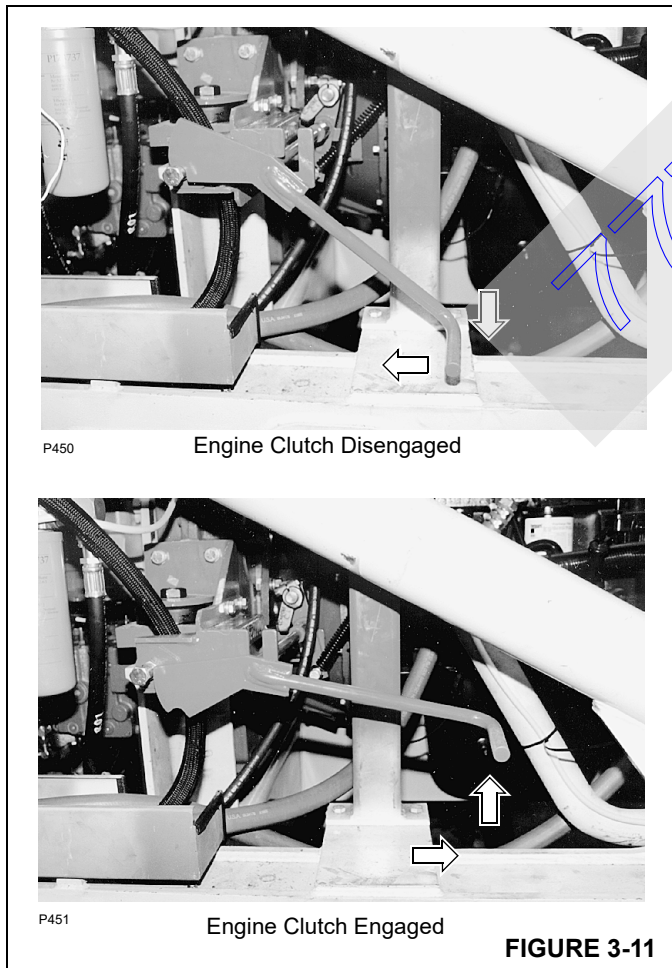

FIGURE 3-11
5. If ambient temperature is below 40°F (4°C), disengage engine clutch, as shown in Figure 3-11. This step will disconnect the pumps from the engine and aid in cold weather startup.